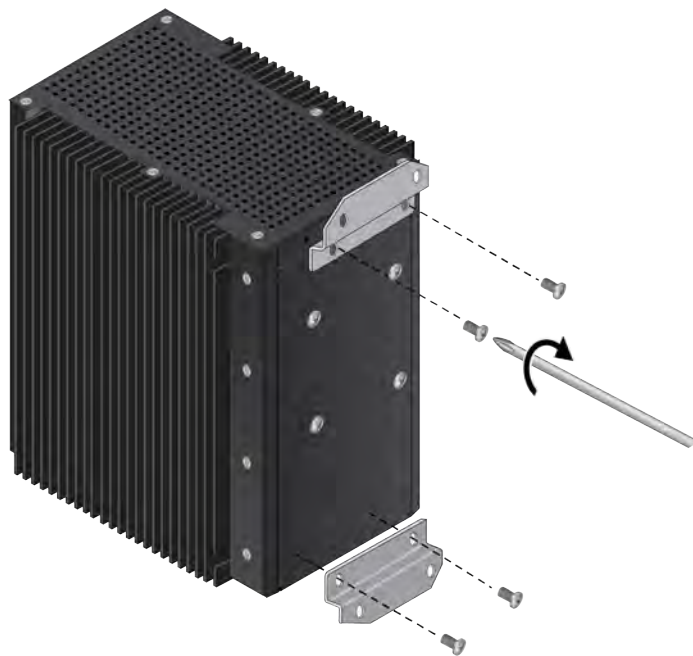

Figure 33. Installing the Wall Brackets on the Switch
5. Install the two wall brackets to the top and bottom of the rear panel with the four screws removed in the previous step or the screws in the accessory kit. Tighten the screws to 18 in-lbs. Refer to Figure 33.
5. Install the two wall brackets to the rear panel of the switch with the four screws removed in the previous step or the screws in the accessory kit. Tighten the screws to 18 in-lbs. Refer to Figure 33 on page 80.